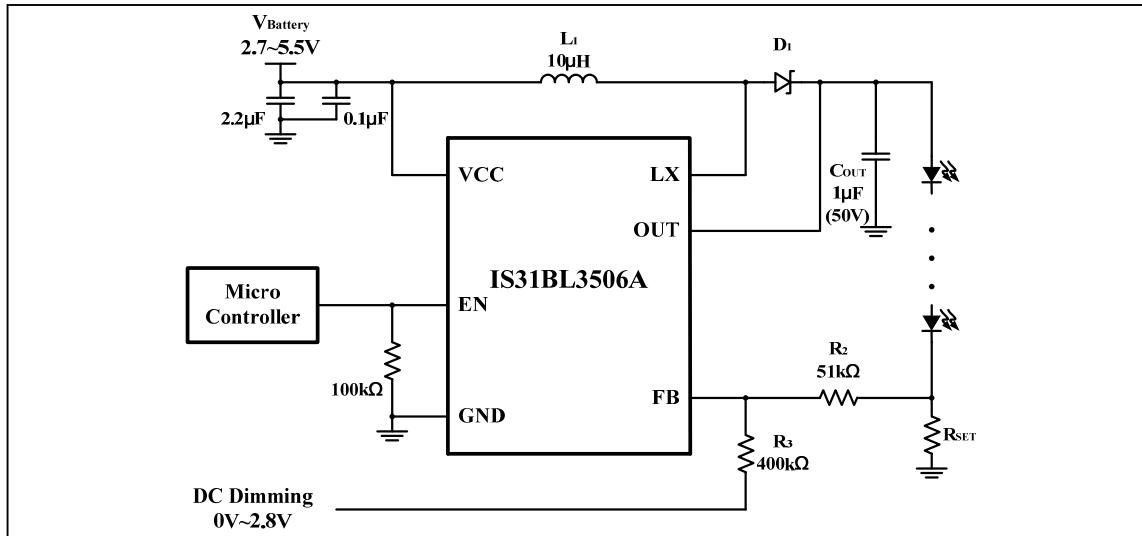

Figure 4 Constant output current with DC dimming input
The schematic of Figure 4 show an example of using a DC input voltage at the FB pin to implement LED dimming. When the DC input voltage increases, the current through  $R_2$  and  $R_3$  increases producing an offset voltage across  $R_2$ , thereby causing the LED current to be reduced. The LED current may be computed using the following equation, (3).  $V_{FB}$  is 0.3V (typ).